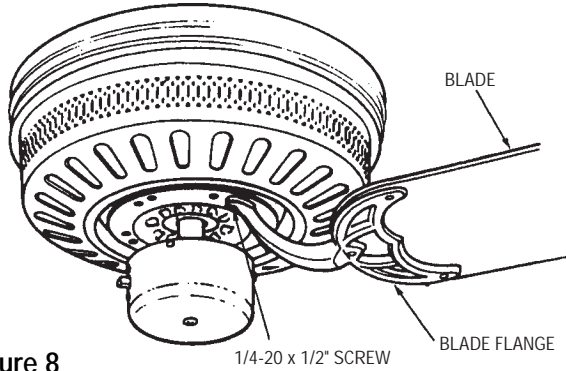

Figure 8
- 3. Attach one blade assembly to the motor using two 1/4-20 x 1/2" phillips head screws (supplied) (Figure 8). Make sure the screws are tightened securely. Repeat this procedure for the other four blade assemblies.